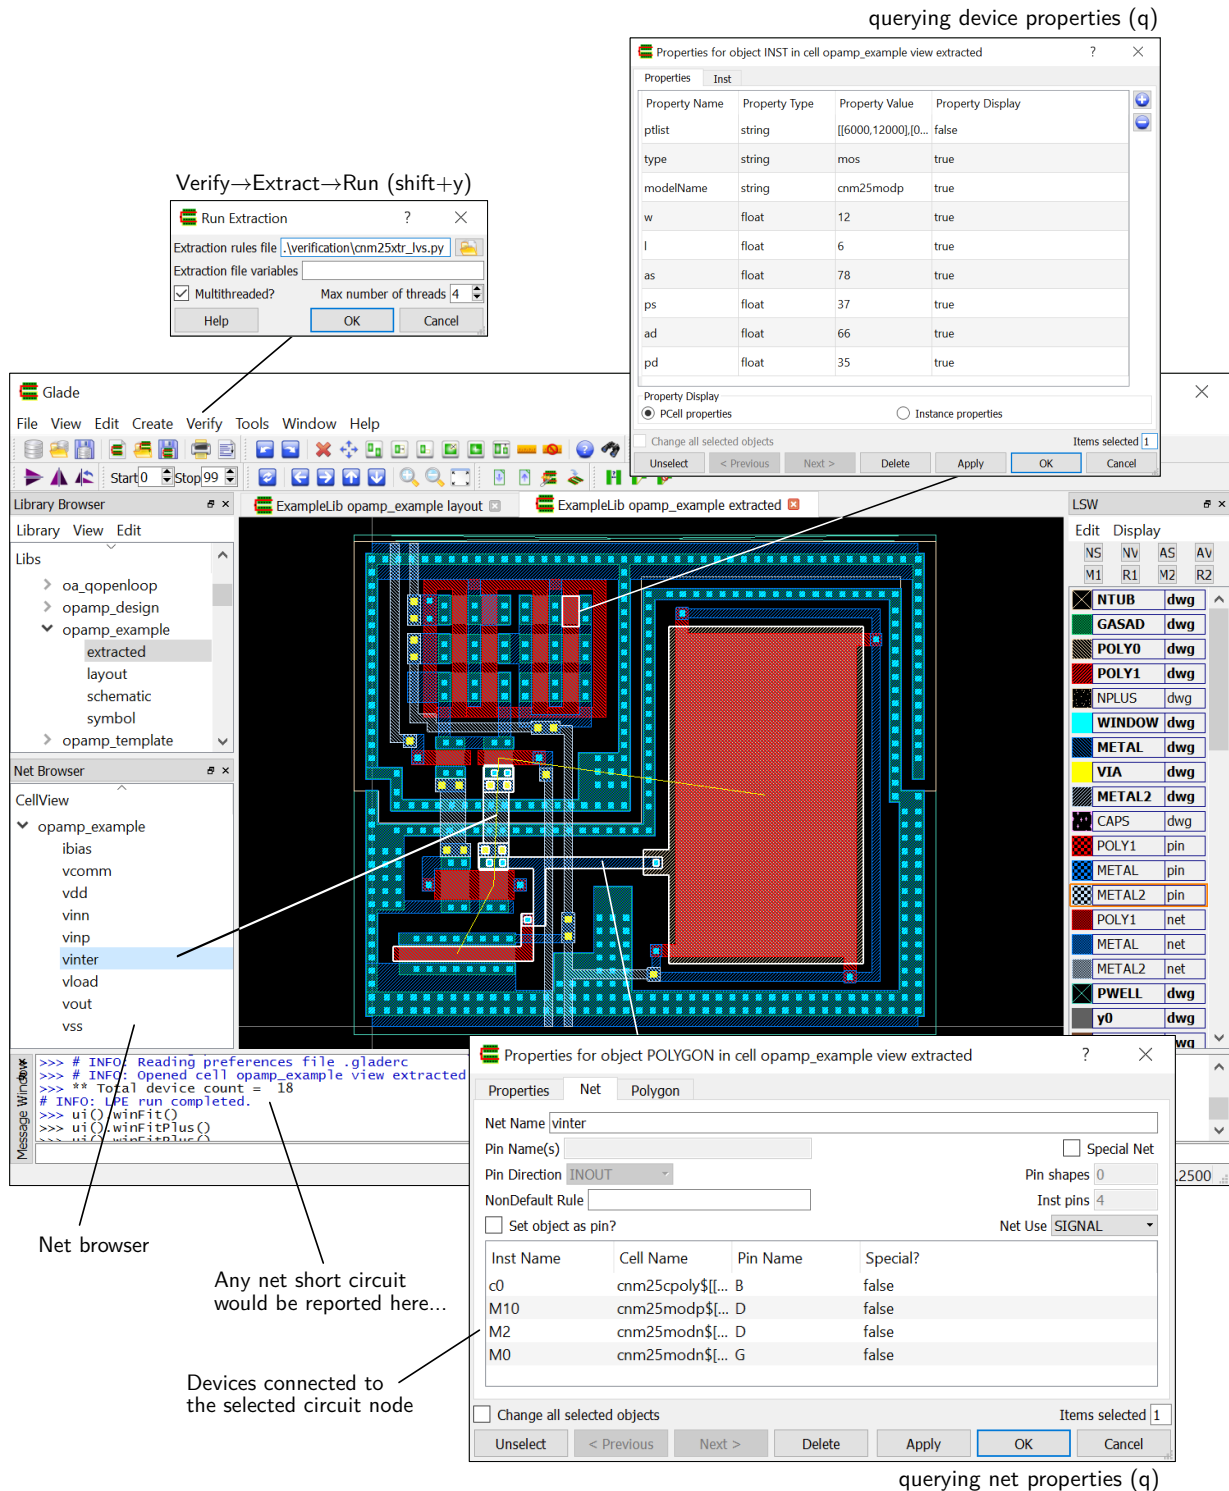

Figure 21 | Glade ERC inspection for ExampleLib→opamp_example→extracted.
As a result of the extraction process, Glade creates the extracted view of your cell layout and reports any short-circuit between labeled nets in the message window. However, the above extraction script does not identify other types of electrical errors (e.g. open circuits). For such a purpose, the net browser of Fig. 21 can be used as an interactive electrical rule checker (ERC), since it highlights the physical location of a given net, including multi-layer nets. Also, the list of device terminals attached to a particular circuit net can be easily explored through the query function. In consequence, the ERC steps are as follows:
4. Inspect for any noticeable ERC error, as depicted in Fig. 21.
Figure 24 Glade ExampleLib→opamp_example→schematic view of the OpAmp layout example used in Fig. 21 before (a) and after (b) including the correspond-ing layout dummy devices.